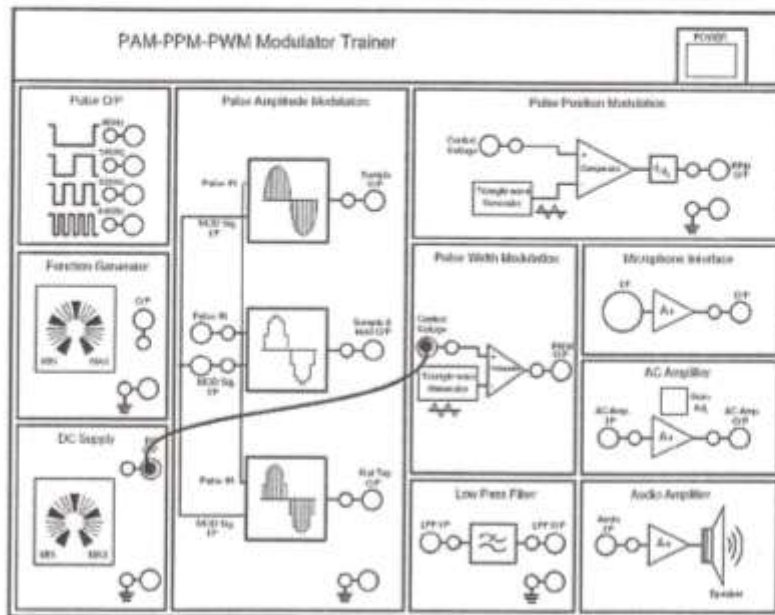

Fig. 22
1. Connect the circuit as shown in Fig 22.